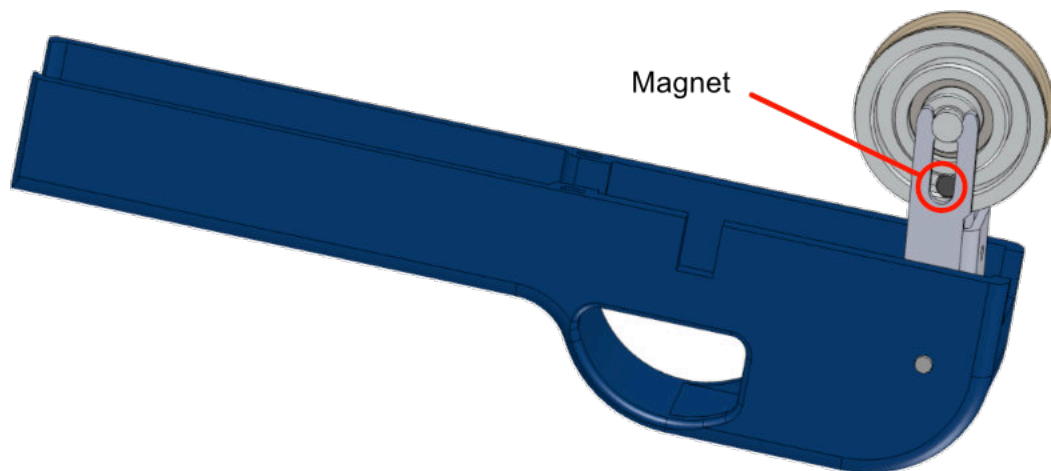

Fig. 4.9.3
6. Refit the rubber ring and mount the wheel into the holder, ensure the wheel is on the correct side of the upper body with magnet aligned as shown in fig. 4.9.3 (If the meter counter does not work, then check the wheel/magnet is fitted the correct way round).